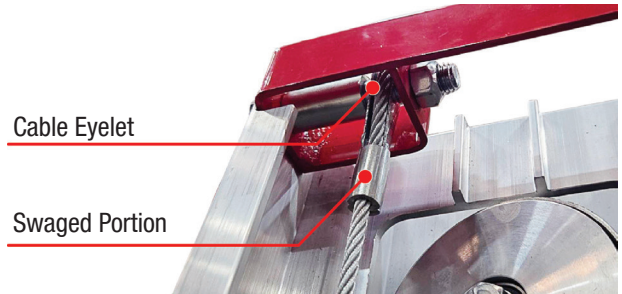
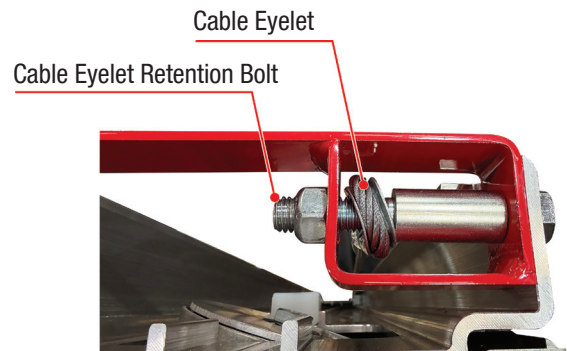

Figure 4-10: Cable Eyelet Location
Figure 4-11: Cable Eyelet and Retention Bolt
8. Locate the cable eyelet at the top of the front mast (see Figure 4-10). Using two 3/4" wrenches, remove the cable eyelet retention bolt to disconnect the cable eyelet from the mast (see Figure 4-11). Save the retention bolt and hardware for re-installation.